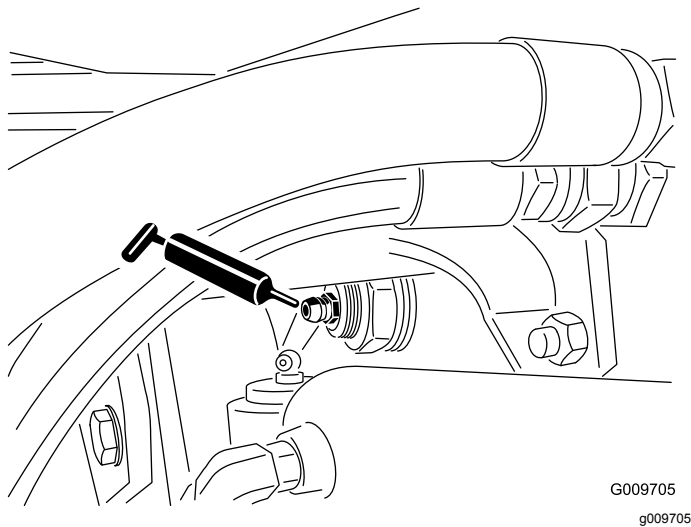

Figure 59
- Rear-axle-pivot bushings (2) as shown in Figure 59